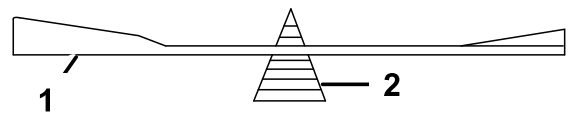

Figure 97
2. Check the balance of the blade by putting it on a blade balancer (Figure 97).